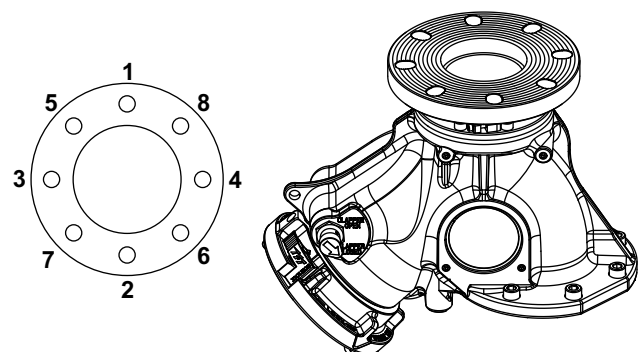

Figure 4.3.2
3. For 4" ANSI 150 flanges with 5/8-11 bolts or studs, tighten to 76-80 ft-lb (100-110 N-m) torque in the alternating sequence shown in Figure 4.3.2. Tighten at graduated intervals of 30%, then 60%, and finally 100% of the specified torque.